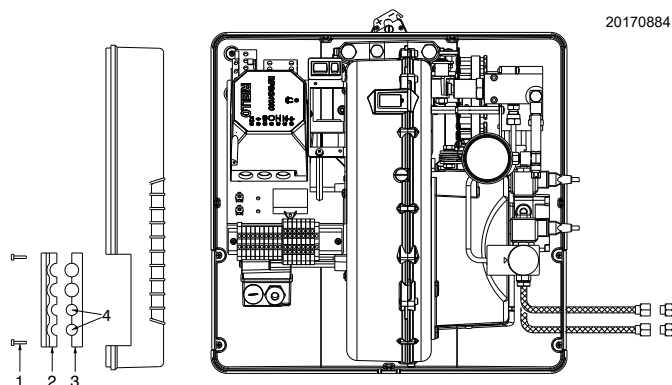

Fig. 20
- Pass the flexible hoses through the holes of the plate, preferably on the right, (Fig. 20);